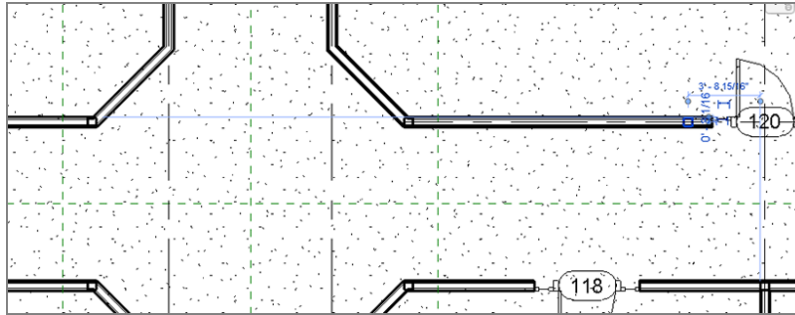

FIGURE 8.32: Adjustments such as moving a column will be necessary quite often.
4. Repeat the same procedure for the other two columns (see Figure 8.32).
5. Zoom in to the door shown in Figure 8.32.